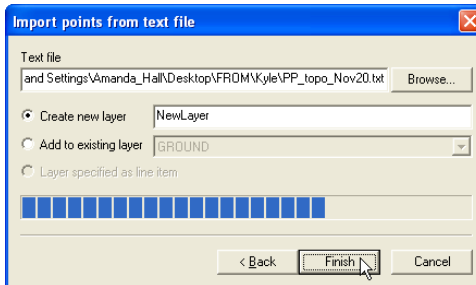

Figure 3-5. Open Point Text File
5. Click **Finish** to import the points (Figure 3-5).